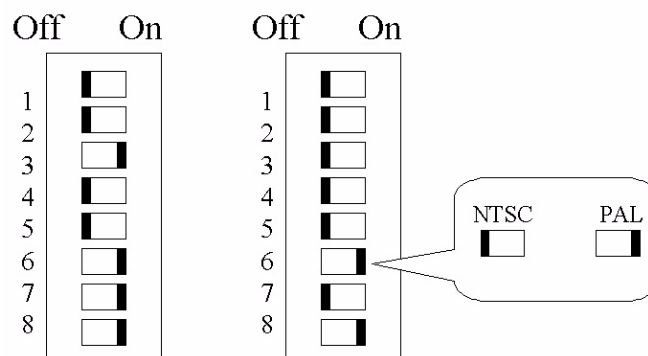

Figure 3-47 Video Converter Dip Switch Positions
- 5.) Follow the manufacturer's guidelines to set the switches to the correct positions, as shown in Figure 3-47.
- 5.) Follow the manufacturer's guidelines to set the video converter dip switches to the correct positions (refer to Figure 3-47 on page 3-49).